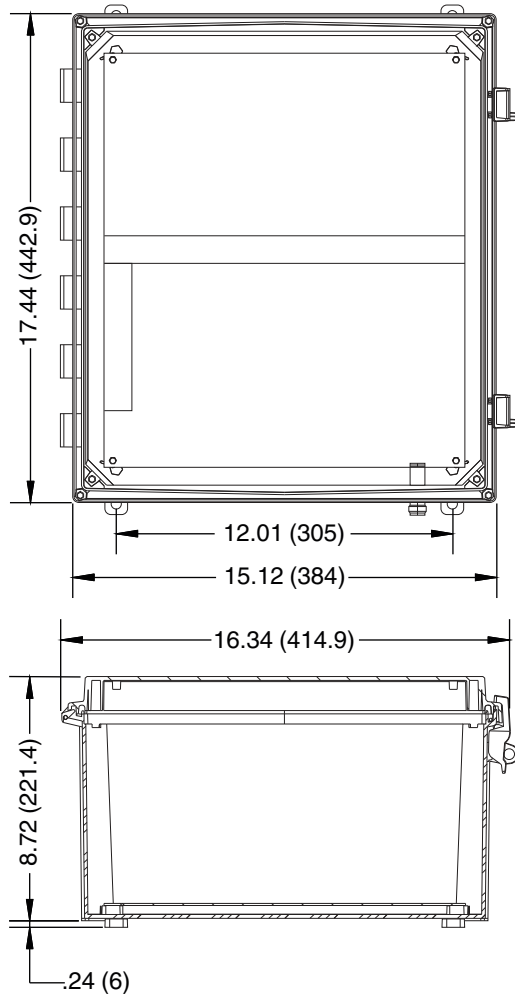

Figure 1 Overall and mounting dimensions
1. Drill holes in the mounting surface according to Figure 1 on page 3.